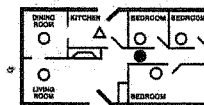

FIGURE 1A
Figures 1A to 2B will help you determine the correct location of safety products that will help make your home a safer place.
- In the immediate area of bedrooms and the exit path from all sleeping areas (Figure 1A).
For minimum protection, install at least one alarm close to the bedrooms. For additional protection, see Figure 1A.